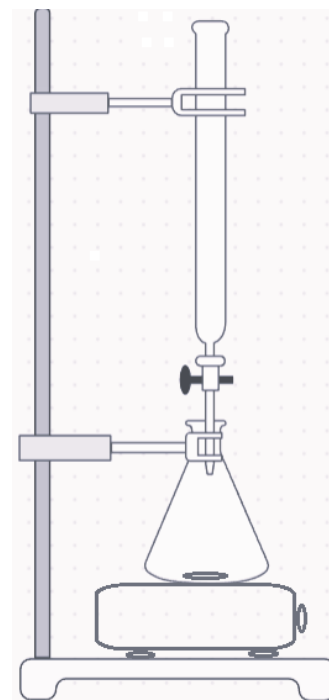

Figure 7.2. Titration setup.
4. Obtain about 130 mL of the 0.250 M lead(II) nitrate solution in a clean, dry, labeled 150 mL beaker. Using a pipet bulb, draw about 10 mL of this solution up into the 25 mL or 50 mL pipet. Tilt the pipet while turning so that the solution comes into contact with the entire inside surface of the pipet. Drain this solution into a 150 mL waste beaker. Repeat this rinse with two more 10 mL portions of lead(II) nitrate solution.
5. Using the rinsed pipet, carefully transfer 100.0 mL of the 0.250 M lead(II) nitrate solution into a 250 mL Erlenmeyer flask.
6. Obtain a ring stand, hotplate/ stirrer, a magnet bar, buret clamp. Prepare the titration assembly as illustrated in Figure 7.2
8. Add KI solution dropwise from the buret to the lead(II) nitrate solution in the Erlenmeyer flask while stirring thoroughly. Continue adding KI solution until the first appearance of yellow PbI_2 that remains after thorough mixing. Record the volume reading of the KI solution in the buret (to the nearest 0.05 mL) on data sheet 1.
9. Repeat steps 4–6 for the 0.100 M, 0.0500 M, 0.0200 M, and 0.0100 M lead(II) nitrate solutions. You do not need to refill the buret before each titration but should note the initial and final buret volume readings for each titration. If the volume reading in the buret approaches the 50.00 mL mark, you should add more KI to ensure that you have enough titrant to complete the titration before you begin.